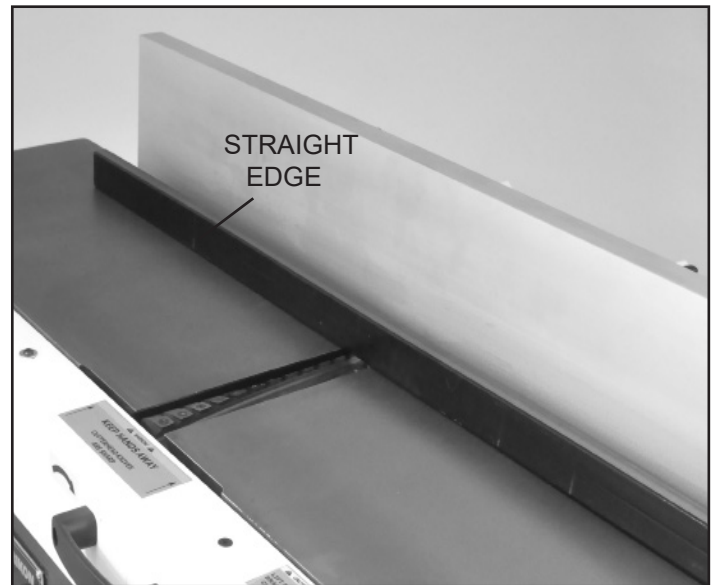

FIG. 18
4. With a long metal straight edge, place it length-wise along the outfeed table so that it extends onto the infeed table. The straight edge should lie level across BOTH tables. If it does, the tables are true to each other, and the machine guards can be re-set for use. FIG. 18. If the straight edge does not lie flat across both tables, then the tables must be adjusted. Tune the outfeed table, as the infeed table was factory set to the cutterhead.